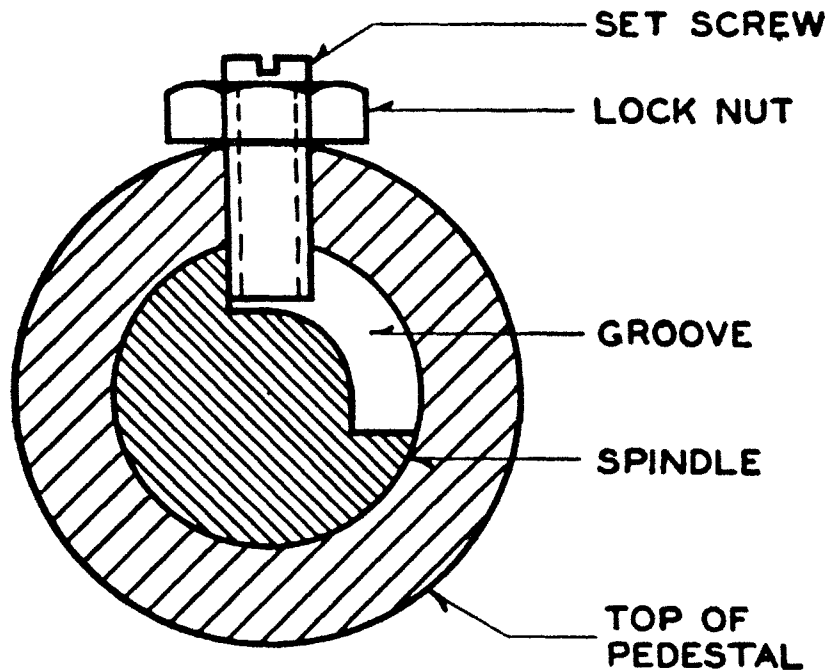

Fig. 7
Note: Requirements 5.02 and 5.03 do not apply to chairs having their rotation limited by a set screw in the pedestal which protrudes into a vertical groove cut in the spindle of the chair as shown in Fig. 7.
5.04 Check to see that the set screw, Fig. 7, has not been driven in so far as to prevent the free rotation of the chair nor backed out so far as to fail to limit the rotation of the chair.